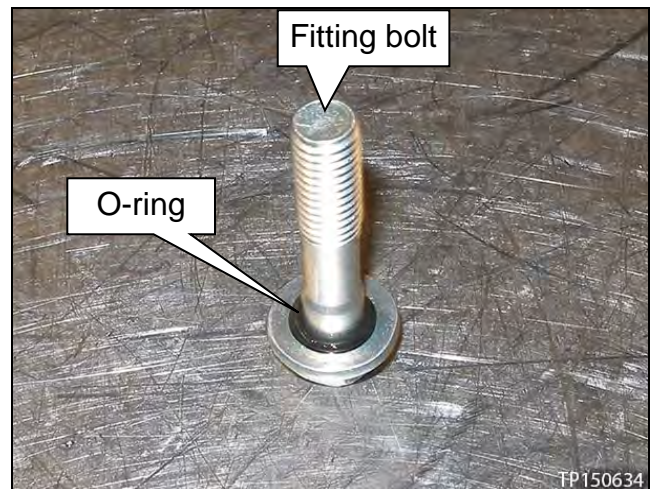

Figure 2D
2. Place new O-ring on the fitting bolt, and coat with CVT fluid (Figure 2D).